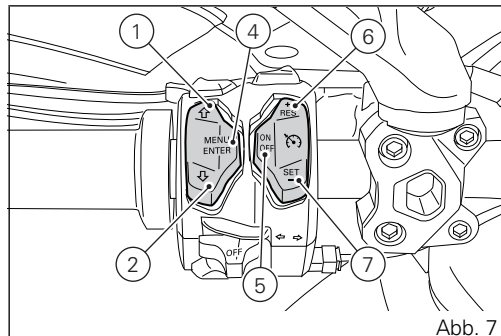

Abb. 7
6) CRUISE CONTROL-TASTE – RES (Resume) / + (more) (Abb. 7)
7) CRUISE CONTROL-TASTE – SET (Setup) / - (less) (Abb. 7)